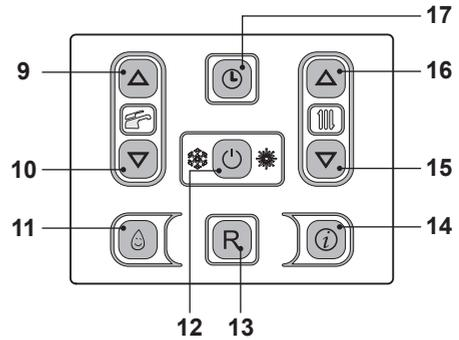
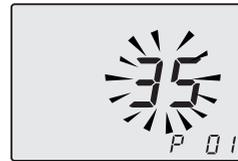

Fig. 7.46
Fig. 7.47
- Enter the "programming mode" by pressing keys 12 - 15 - 16 (Fig. 7.46) for 10 seconds at the same time until the letters **P01** are displayed on the LCD display and the value of the parameter (40=Inovia 16S or 41=Inovia 25S), indicating that "parameter 01" (Fig. 7.47) has been activated.
- Press keys 9 or 10 to change the value and confirm the value of the parameter with key 12.
- Press keys 15 or 16 (Fig. 7.46) to exit without changing the value.